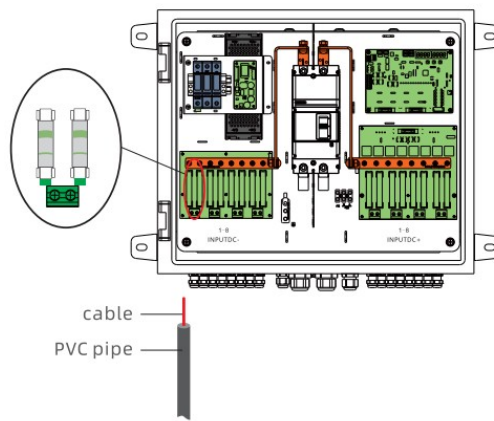

Figure 4-6 Cable connection demonstration
Step 4 loosen the fixing screw of terminal, insert copper core of cable to terminal, then tighten screw as figure 4-6.